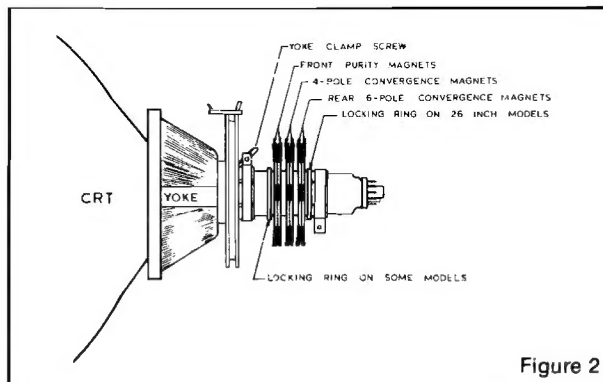

Figure 2
- 1.1 Loosen yoke retaining clamp (figure 2), remove adhesive material fixing wedges to CRT. Remove wedges completely and clean off dried adhesive from picture tube and wedges.
NOTE: Static convergence is achieved by four magnets located on the neck, nearest the base of the picture tube, Fig. 2. The middle pair of magnetic rings are adjusted to converge the blue and red crosshatch lines. The rear pair of convergence rings (closest to the base of the picture tube) are adjusted to converge the magenta (blue/red) to the green crosshatch lines. Dynamic convergence is achieved by tilting the deflection yoke up-down and left-right.